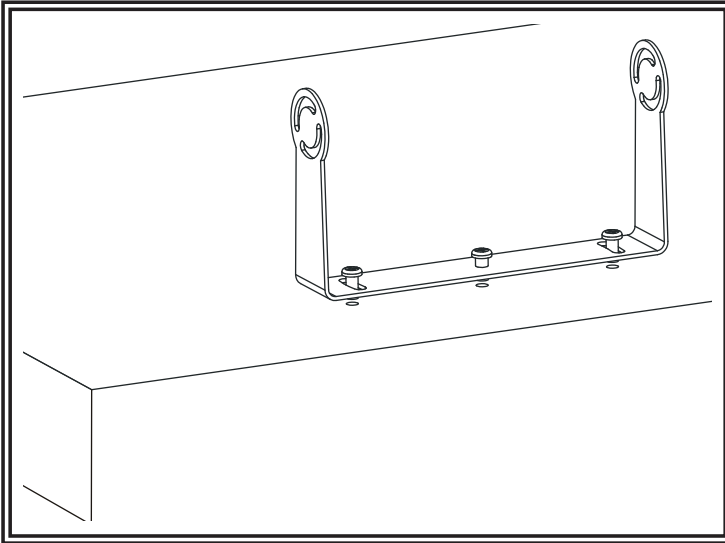

Figure 4
1. Select suitable position on vehicle and fix the U-support bracket with screws (Figure 4)